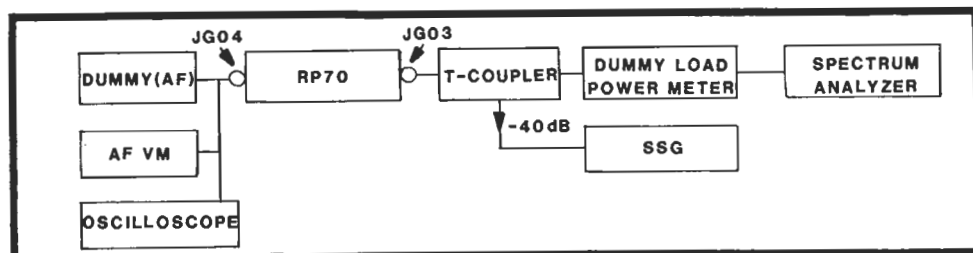

FIGURE 13. DUPLEXER TEST SETUP
2. Remove the plugs from the duplexer which is connected to the RX jack (J101) and to the booster output jack (JB02) (see Figure 13).